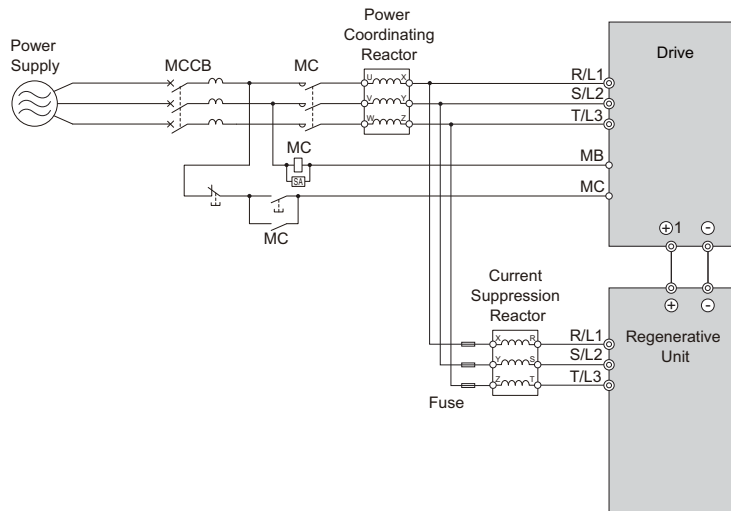

Figure 7.2 Power Supply Interrupt Wiring (Example)
- If several drives are connected to one MCCB or ELCB that is shared with other equipment, use a sequence that shuts the power OFF when errors are output by using magnetic contactor (MC) as shown in Figure 7.2.